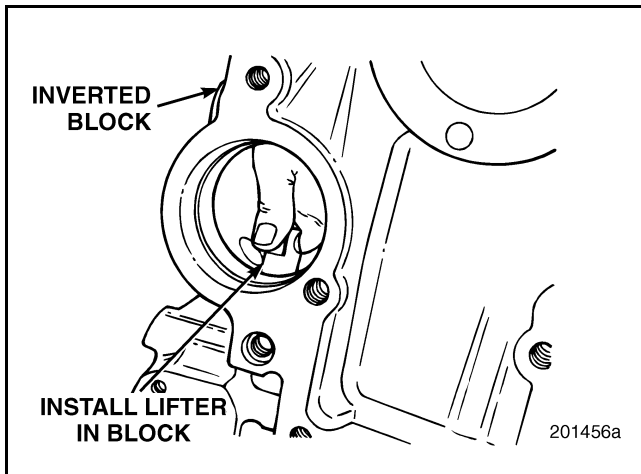

Figure 258 — Valve Lifter Installation
3. Install the lifters into the cylinder block lifter bores as shown in Figure 258.